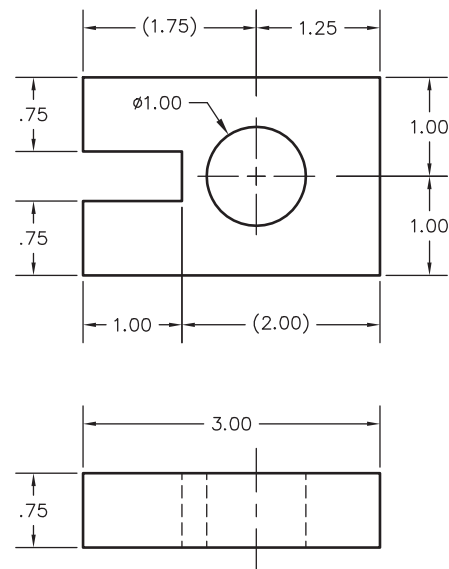

Fig. 39-11
1. Set the elevation at **1"** to create a 3D model of the guide shown in Fig. 39-11.